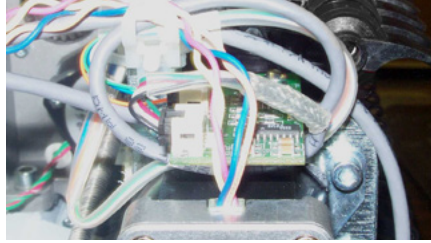

Figure 4 - Grabber/Thread Feed Motor Connection at PCB
19. Connect the grabber motor lead to the interface cable coming off the grabber stepper motor. Loop it and tie it with a cable tie as shown in Figure 4 above. Allow just enough slack so that the connectors will not disconnect during machine operation.